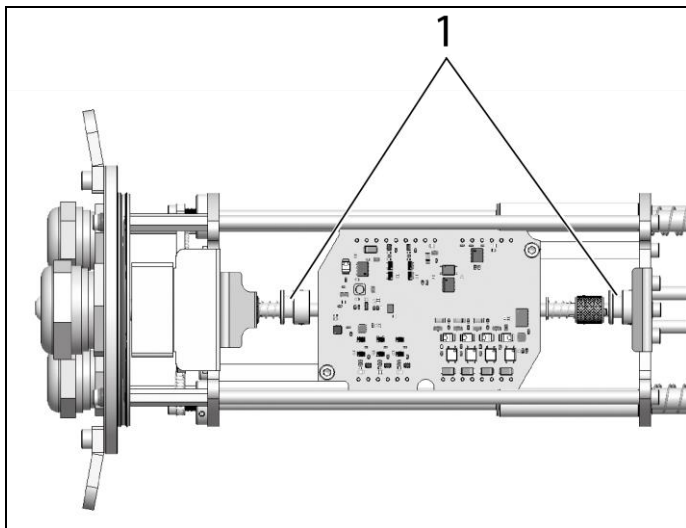
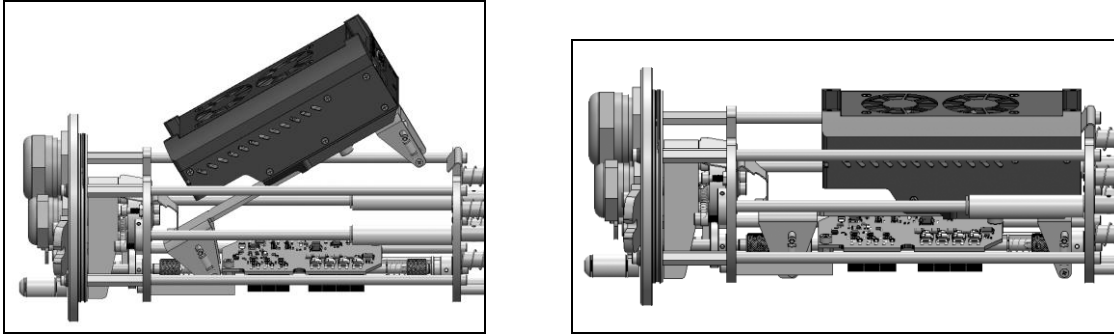

Figure 29: Notch to fix the TIM NetBox (top view)
Figure 30: Fitting the TIM NetBox into the chassis (right hand view)
At first push the fastening rail with the TIM NetBox into the left notch (1) of the shaft. Afterwards into the right notch (1) (**Figure 29**) until it is engaged (**Figure 30**).